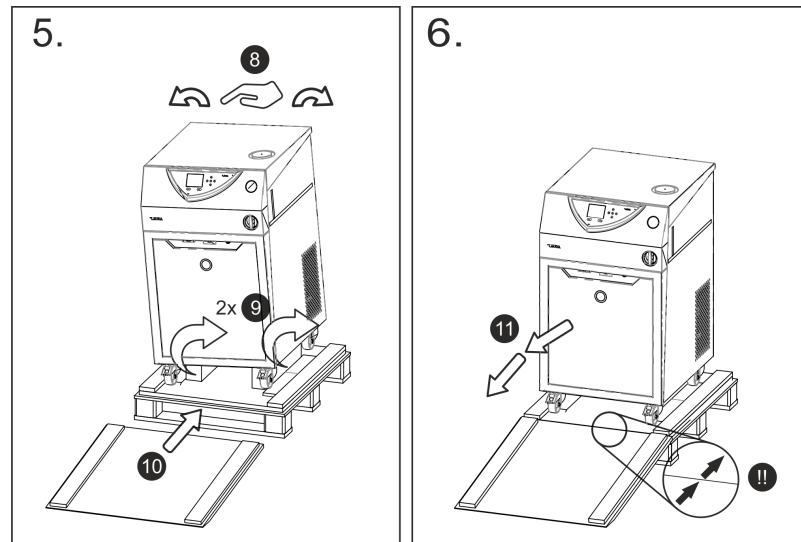

Fig. 4: Graphic of unpacking instructions for VC 5000
5. Remove the foam material ⑥ from the device and the corners ⑦.
6. **Fig. 4:** The device has been unpacked.